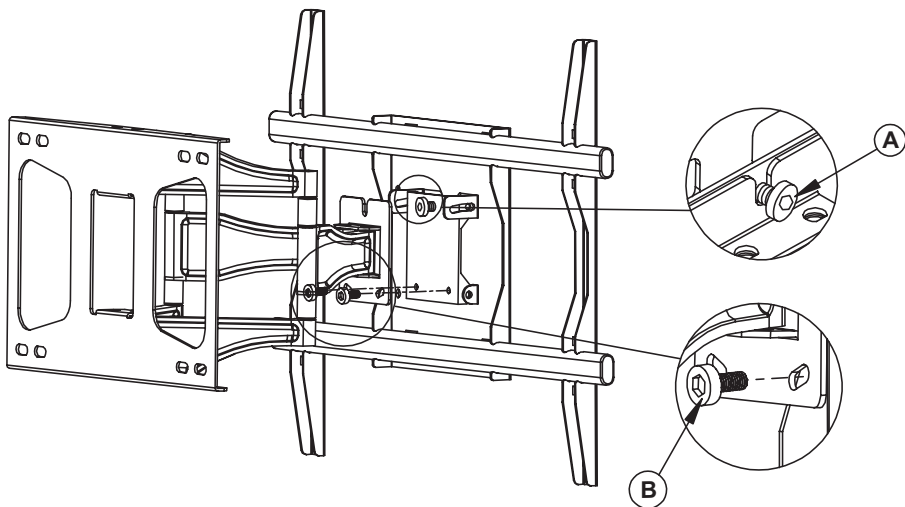

Figure 5 - Attach TV Assembly to Wall Plate
Next, hang the pre-assembled TV unit on the Wall Plate. Slide the protruding flat head hex bolt on the bracket attached to your TV (A) into the groove on the mounted Wall Plate, illustrated in Figure 5. Use the included M6x10 bolts (B) to secure the TV assembly to the wall plate, and then tighten the top bolt (A) on the TV assembly.